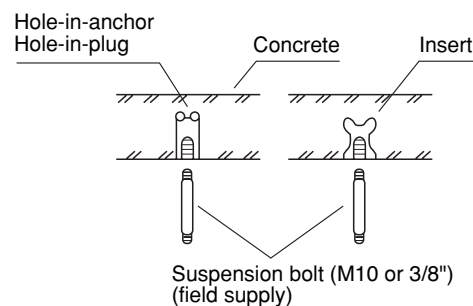

Fig. 3-40
- (2) Drill holes at the 4 points indicated on the full-scale diagram.
- (3) Depending on the ceiling type:
- (a) Insert suspension bolts as shown in Fig. 3-40.